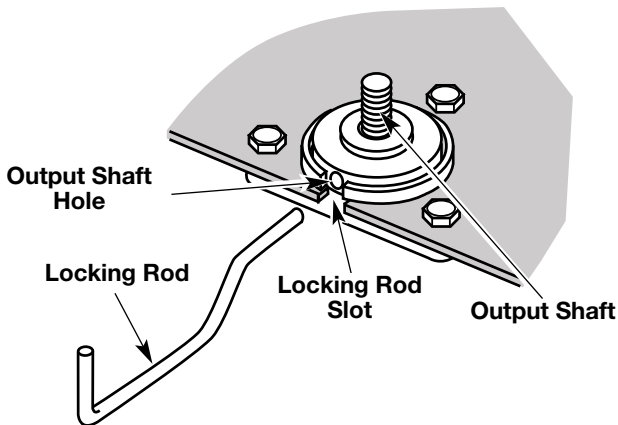

Fig. 27
1. Line up the hole in output shaft with the locking rod slot. Insert the locking rod through the slot into the output shaft hole (Fig. 27).